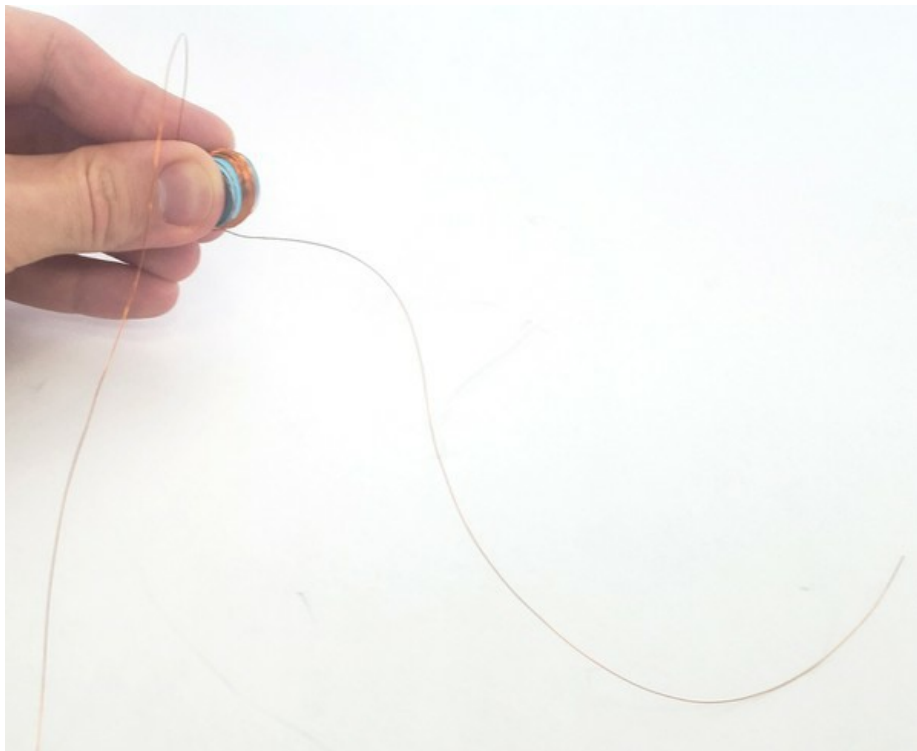

Figure 8. Completed wire coil with about one foot of free wire on each end.
7) Measure out another foot of wire to leave free at the end of the coil and cut the wire (Figure 8).